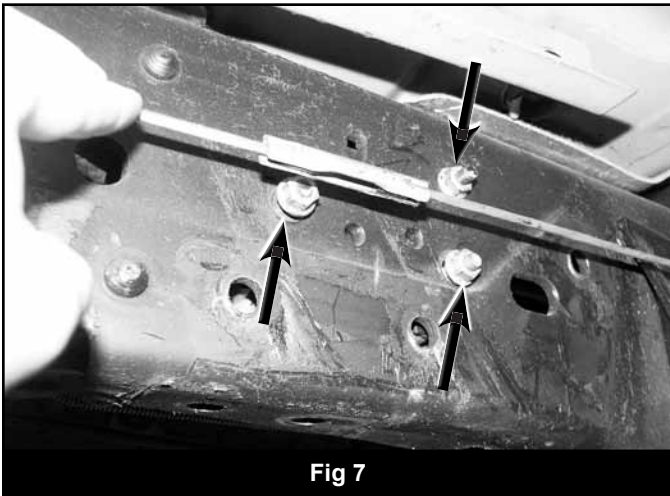

Fig 7
19. Repeat the frame bracket and control arm procedure on the driver's side of the vehicle. **Notes:** To help in accessing the bracket bolts, the fuel junction block mounted to the inside of the driver's side frame rail can be disconnected and repositioned out of the way. Use the nut that was removed from the radius arm-to-frame bolt for the upper control arm-to-axle mount bolt on the driver's side. The OE bolt in this position is welded to the radius arm. (Fig. 7, 8)